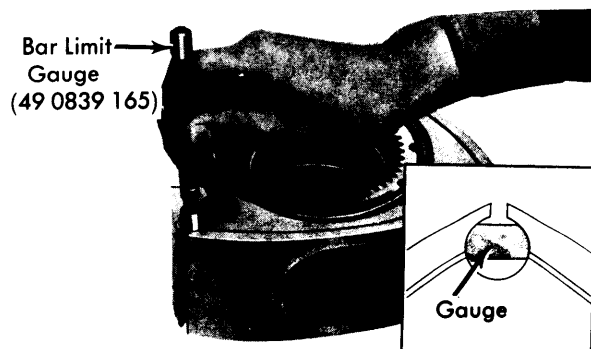

Fig. 17 Checking Corner Seal Groove Measurement
**"Go" End of Gauge Goes Into Groove** — Indicates that gap is more than standard, but less than wear limit. In this case replace corner seal, (Fig. 17).